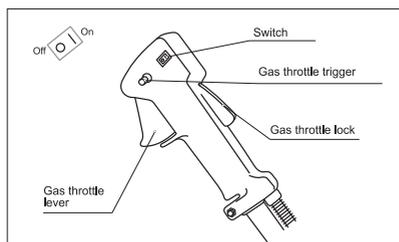

fig. 10
5. Turn the ignition switch, located on the control handle, to the ON / 1 position. Pressing the fuse lever, push the throttle lever (throttle lever) and lock it in the depressed state using the lock (fig. 10).
1. Turn on the ignition using the switch located on the control handle (fig. 10).
2. Pressing the safety lever, push the throttle lever (throttle lever) and lock it in the depressed state with the latch (fig. 10).